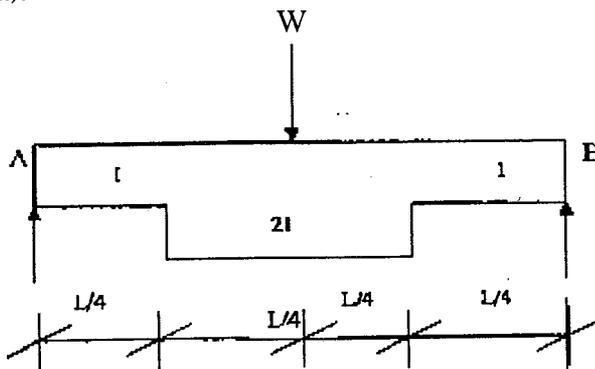

Fig. 11(a)
11. (a) Find by the unit load method the slope θ_A of the simple beam AB shown in fig 11(a).